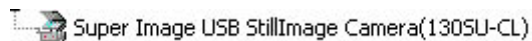

Figure 5.
6. The operating system will execute required drive installation procedure when it finds a new hardware. If all devices, as shown in figure 5 are listed in the device manager, this means this electronic ocular system has been properly installed.